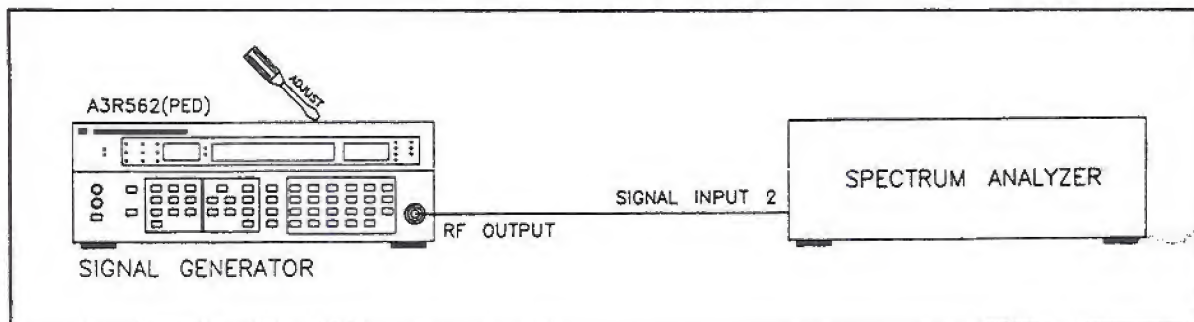

Figure 5-30. Pedestal Adjustment Setup
3. Connect the RF OUTPUT of the Signal Generator to the spectrum analyzer as shown in Figure 5-30.